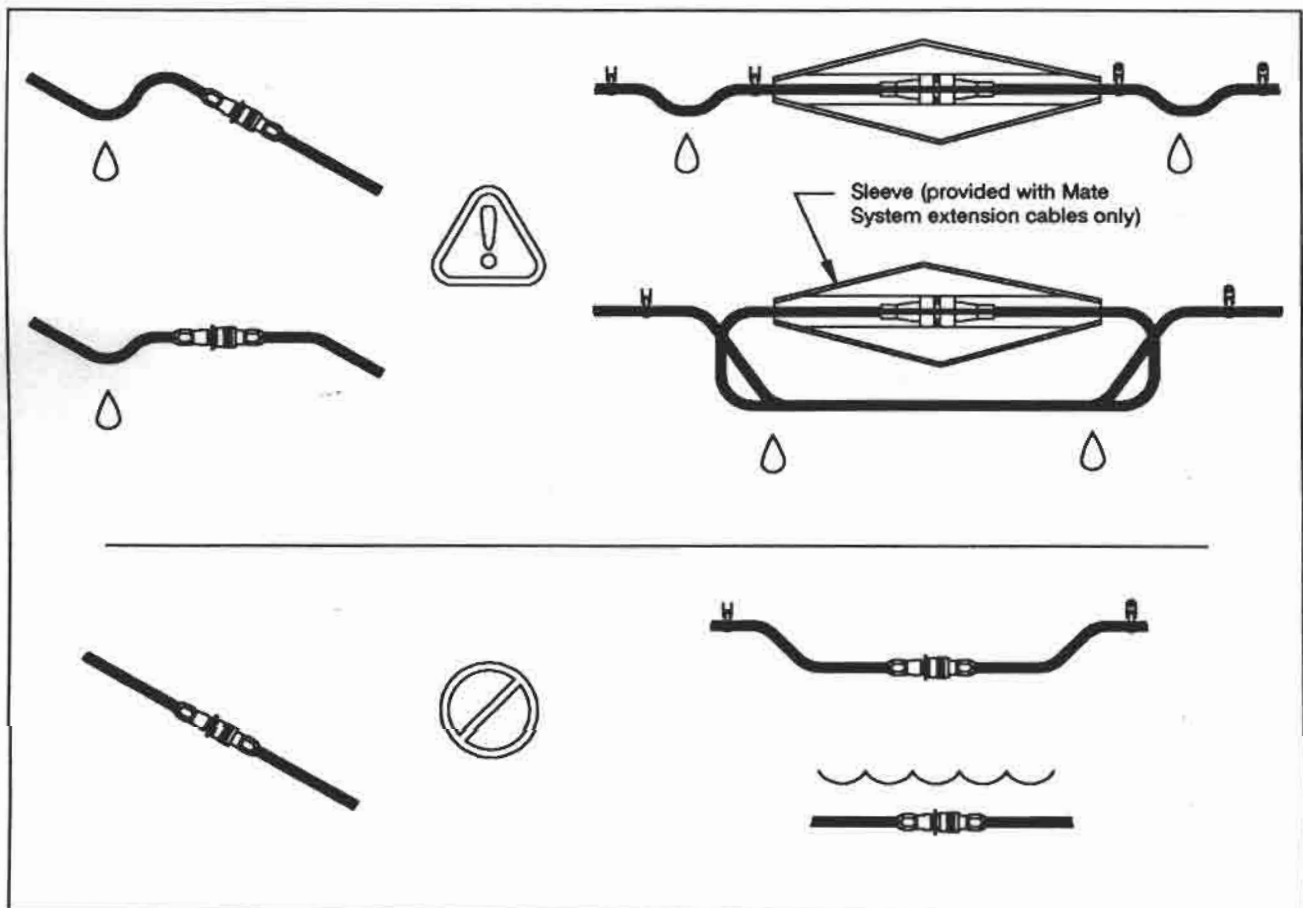

Figure 2-14. Extension cable drip loops
- drip loops are provided near extension cable joints to prevent coolant collecting in the joint (Figure 2-14).